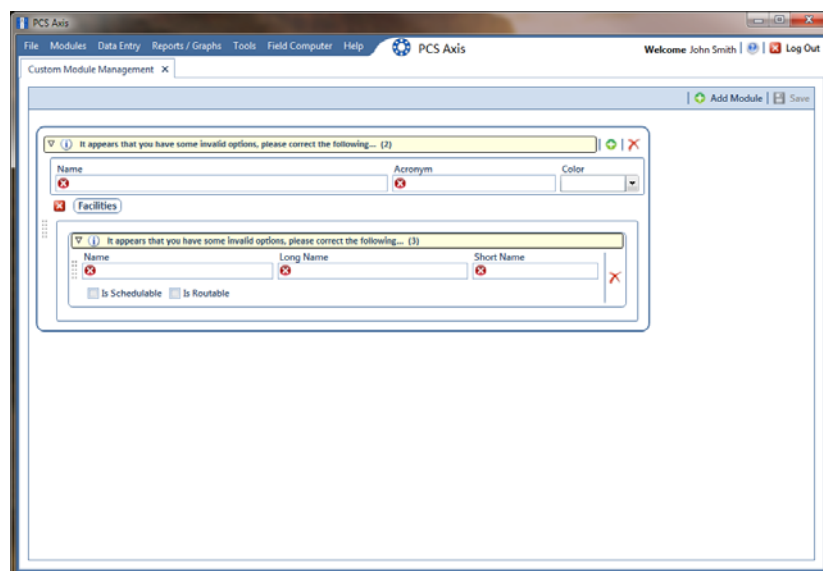

Figure 3-54. Custom Module Management
- 2 Open CMM and add a user defined module. Click **Modules > Custom Module Management >  Add Module** (Figure 3-54).